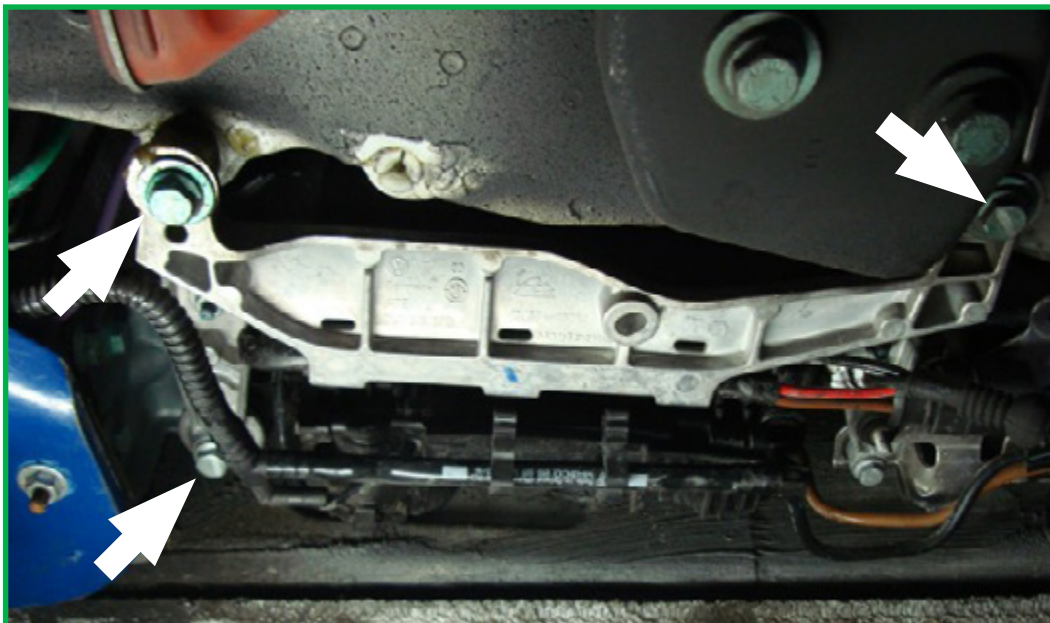

FIGURE 7
8. Remove the three (3) mounting bolts that secure the compressor to the vehicle. (Figure 7)